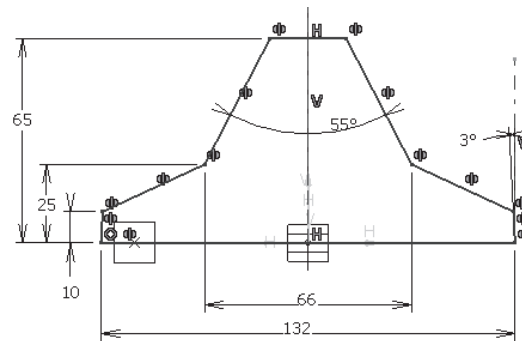

Figure 6-75 Sketch of the base feature
5. Invoke the **Sketcher** workbench after selecting the newly created plane as the sketching plane and draw the sketch, as shown in Figure 6-75.